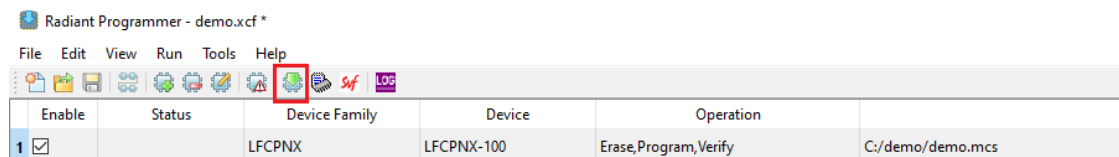

Figure 6.18. Program Device Icon on the Toolbar
9. From the Run menu, select **Program Device** to program the external SPI flash. Alternatively, you can click on the Program Device icon from the toolbar, as shown in Figure 6.18.